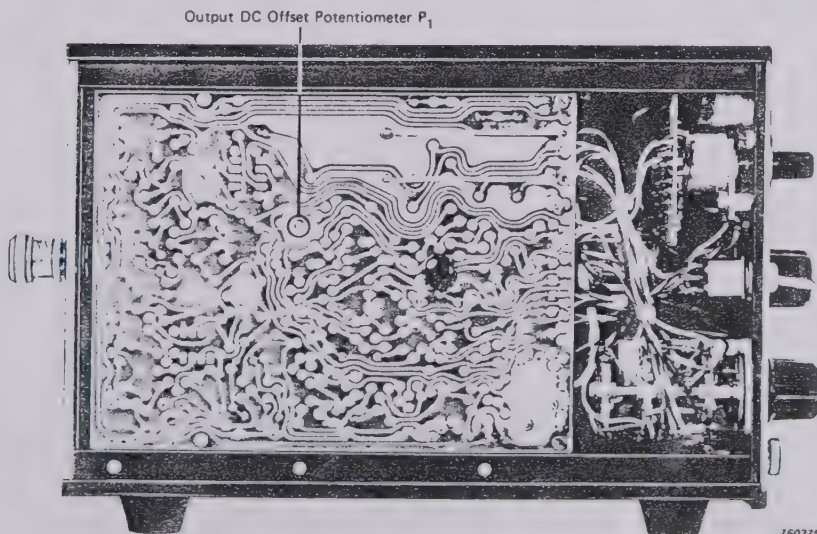

Fig.3.4. Output DC offset voltage adjustment potentiometer P_1
4. Connect a DC voltmeter such as the B & K Digital Type 2427 to one of the OUTPUT sockets and using a small screwdriver adjust the preset potentiometer P_1 shown in Fig.3.4 so that the output DC offset voltage indicated by the voltmeter is zero. Check that the offset voltage remains zero when the side panel of the Amplifier is replaced.